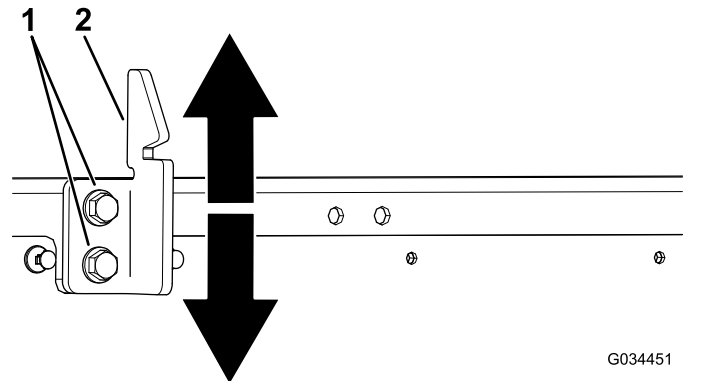

Figure 63
3. Loosen the 2 bolts on the box-latch striker and move the striker up or down, depending on if the striker is too high or too low (Figure 63).
4. Tighten the 2 bolts on the box-latch striker (Figure 63).